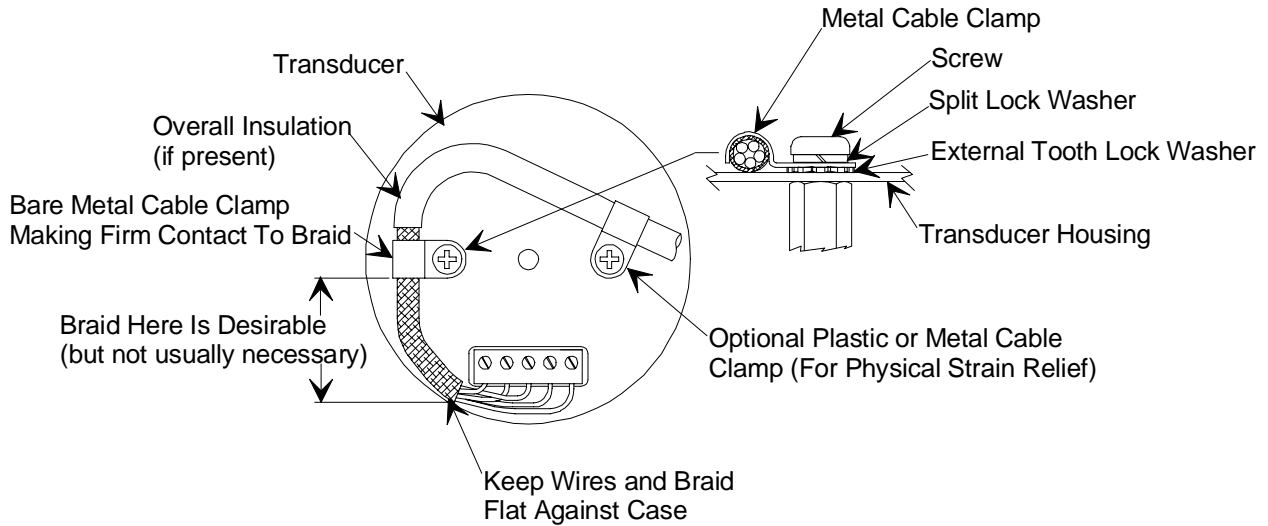

Figure 6: Preferred Method
4. For shielded cables with flying leads at one or both ends; it is important at each such end, to ground the shield *before* the wires exit. Make this ground with absolute minimum length. Refer to Figures 6 and 7, page 18. (A ¼ inch piece of #22 wire may be undesirably long since it has approximately 5 nH of inductance, equivalent to 31 ohms at 1000 MHz). After picking up the braid's ground, keep wires and braid flat against the case. With very few exceptions, grounded metal covers are not required over terminal strips. If one is required, it will be stated in the Declaration of Conformity or in the instruction manual.